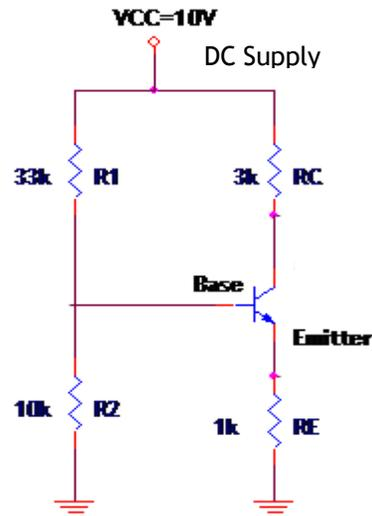

Fig. 4.2
1. Measure all resistor values (R_1 , R_2 , R_C and R_E) from circuit in *Fig. 4.2* using DMM.
4. Construct circuit as of *Fig. 4.2* and set $V_{CC} = 10$ V.